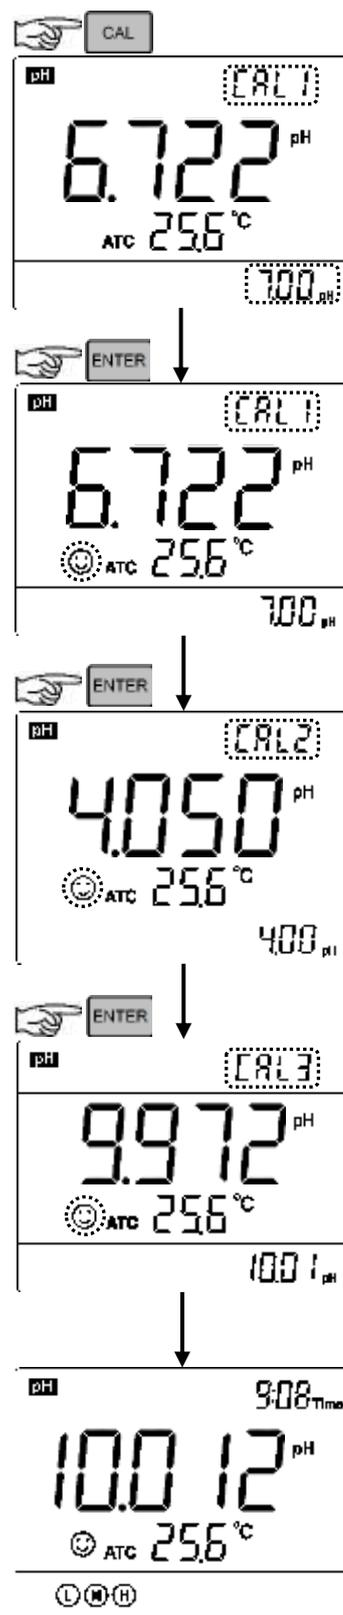

Figure-9
4.4.5 Take out pH electrode, rinse it in distilled water, dry it, and dip it into pH 10.01 buffer solution. Stir the solution gently and let it stand still in the buffer solution until a stable reading is reached. The meter's display will show recognition process of calibration buffer solution at the bottom right of LCD. When the meter recognizes 10.01 pH, ☺ displays on LCD. Press **ENTER** key to calibrate the meter. **End** icon and electrode slope of alkalinity range display after calibration is done. The meter returns to the measurement mode, displays stable measuring value and calibration guide icons (L)(M)(H). Please see Figure-9 for the above calibration process.